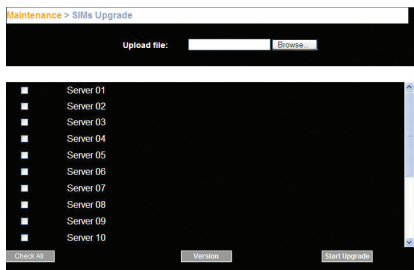

Figure 23 SIM Upgrade
- From the menu, select “SIM Upgrade”. The Upgrade window should appear, showing the current firmware version (see Figure 23).